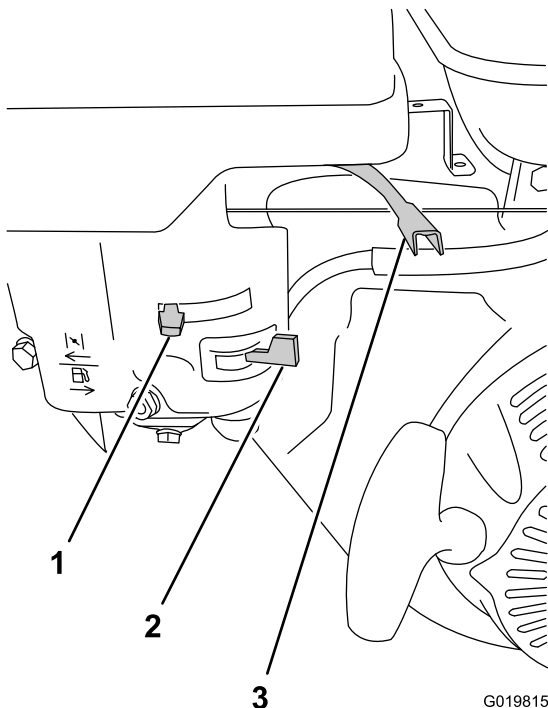

Figure 30
2. On the engine, move the throttle lever away from the Min position, 1/3 of the way toward the Max position (Figure 30); refer to Throttle Lever (page 13).
3. Move the lever of the fuel valve to the On position—all the way to the right (Figure 30); refer to Fuel Valve (page 13).
- To start a cold engine, move the choke lever to the Closed position—all the way to the left (Figure 30); refer to Choke Lever (page 13).
5. Rotate the engine switch to the On position (Figure 30); refer to Engine On/Off Switch (page 13).
1. Ensure that the choke lever is in the Off position (Figure 30); refer to Choke Lever (page 13).
2. Move the throttle lever to the Min position (Figure 30); refer to Throttle Lever (page 13).